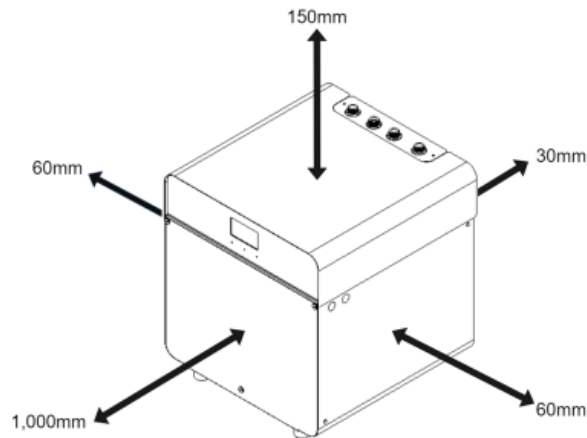

Figure 24: Heat Pump Clearance
- The GSHP is easily accessible for inspection, operation. Space should be allowed to provide access to service and exchange the heat pump, refer to *Figure 24*